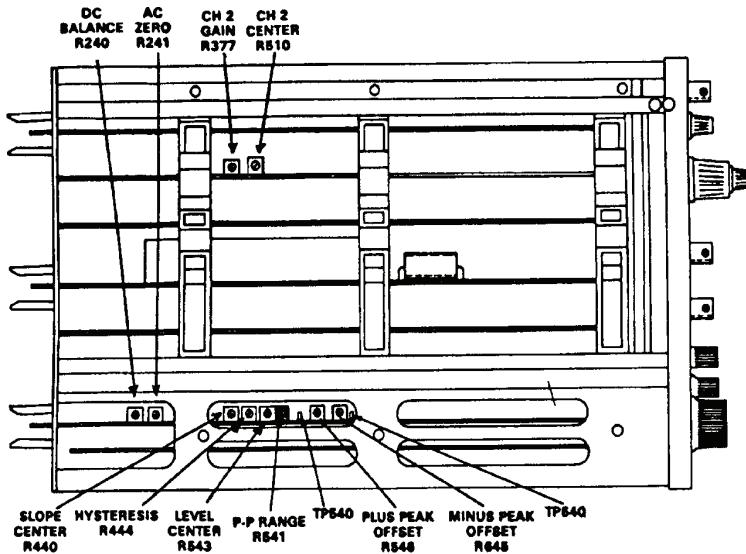

Figure 3. Tektronix, Type 7D20 bottom view - adjustment locations.
- n. Adjust AC ZERO R241 (fig. 3) for 0 V dc ± 2 mV indication on multimeter.
- p. Adjust DC BALANCE R240 (fig. 3) for 0 V dc ± 2 mV indication on multimeter.
- af. Adjust **TRIGGERING/LEVEL** control for a stable trigger. If trigger cannot be obtained, adjust HYSTERESIS R444 (fig. 3) so a stable trigger can be obtained.
- ag. Set **CH 1 VOLTS/DIV** switch to **5 V**. **SIGNAL** display should not be triggered using the **TRIGGER LEVEL** control. If so, adjust **HYSTERESIS R444** (fig. 3) for a stable trigger at **CH 1, 2 V VOLTS/DIV** and no stable trigger at **CH 1, 5 V VOLTS/DIV**.
ao. If the cursor dot ± 0.04 divisions cannot be obtained in an above, adjust SLOPE CENTER R440 (fig. 3) so that while switching between + and - SLOPE cursor dot does not move vertically more than ± 0.04 divisions.
au. TI display **CURSORS** dot indication will be within 0.08 division of center graticule line; if not, adjust LEVEL CENTER R543 (fig. 3) so trigger point (**CURSOR 1** dot) is within 0.08 divisions of center graticule line.
bb. Adjust **CURSORS** $\Leftarrow 1 \Rightarrow T=0.0S$. Triggering point (**CURSOR** dot) will indicate between 0.8 and 1.2 divisions below sine wave positive peak; if not, adjust P-P RANGE R541 (fig. 3) for the (**CURSOR** dot) position to fall between 0.8 and 1.2 divisions below sine wave positive peak.
bd. Triggering point (**CURSOR** dot) will indicate between 0.8 and 1.2 divisions above sine wave negative peak; if not, adjust P-P RANGE R541 (fig. 3) for best compromise to meet requirement of **bb** through **bd** above.
- bo.** Move the positive lead of multimeter to TP540 and adjust **PLUS PEAK OFFSET R546** (fig. 3) for + 10.0 mV indication on multimeter.
- bp.** Move the positive lead of multimeter to TP640 and adjust **MINUS PEAK OFFSET R645** (fig. 3) for -10.0 mV indication on multimeter.